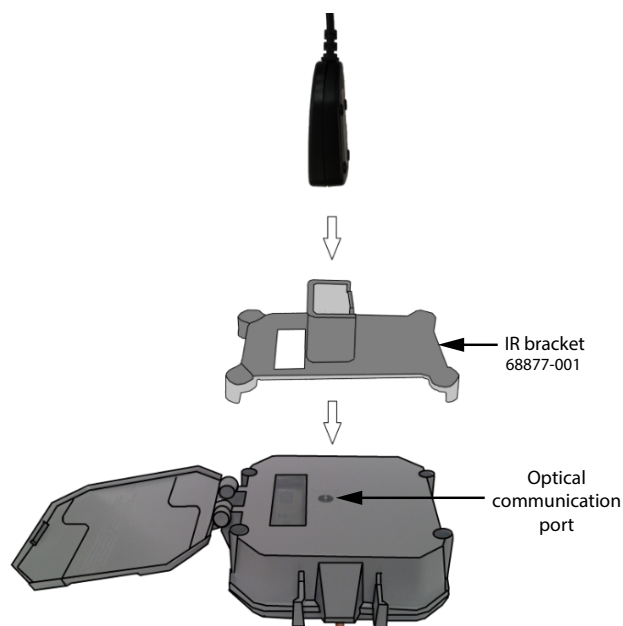

Figure 3: IR bracket for E-Series G2 Ultrasonic meter
2. Position the bracket over the E-Series G2 Ultrasonic meter as shown in *Figure 3*, with the opening directly over the meter optical communication port. Push down gently at both ends so the four (4) corners clip over the edges of the meter.
* When performing any PCU function, make sure the IR device is connected and aligned with the optical communication port (IR port) on the meter until the function is completed. See Figure 3 for correct positioning of the IR device.